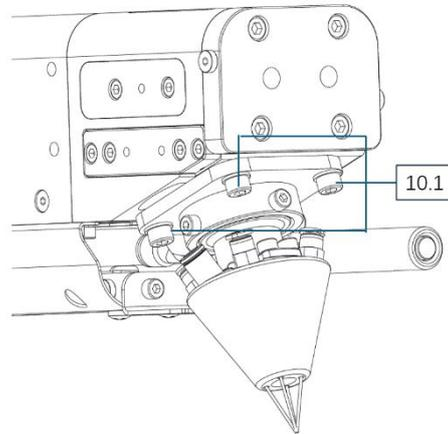

图 10
3. The specific adjustment method is shown in Figure 10: